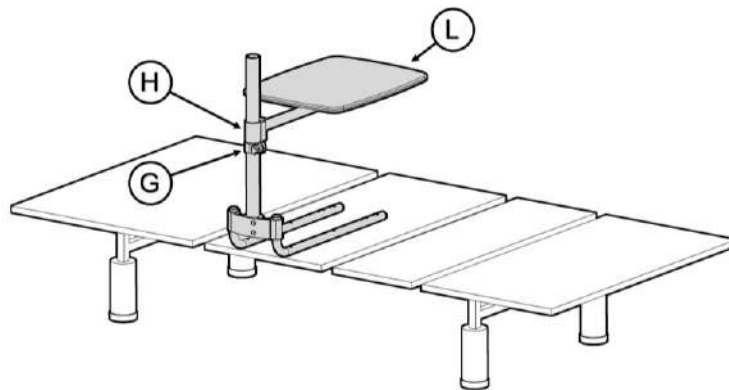

FIGURE 16
15. Place **G** on pole and set to desired height. Place **H** on pole and hang **L** on **H** as shown. *FIGURE 16*